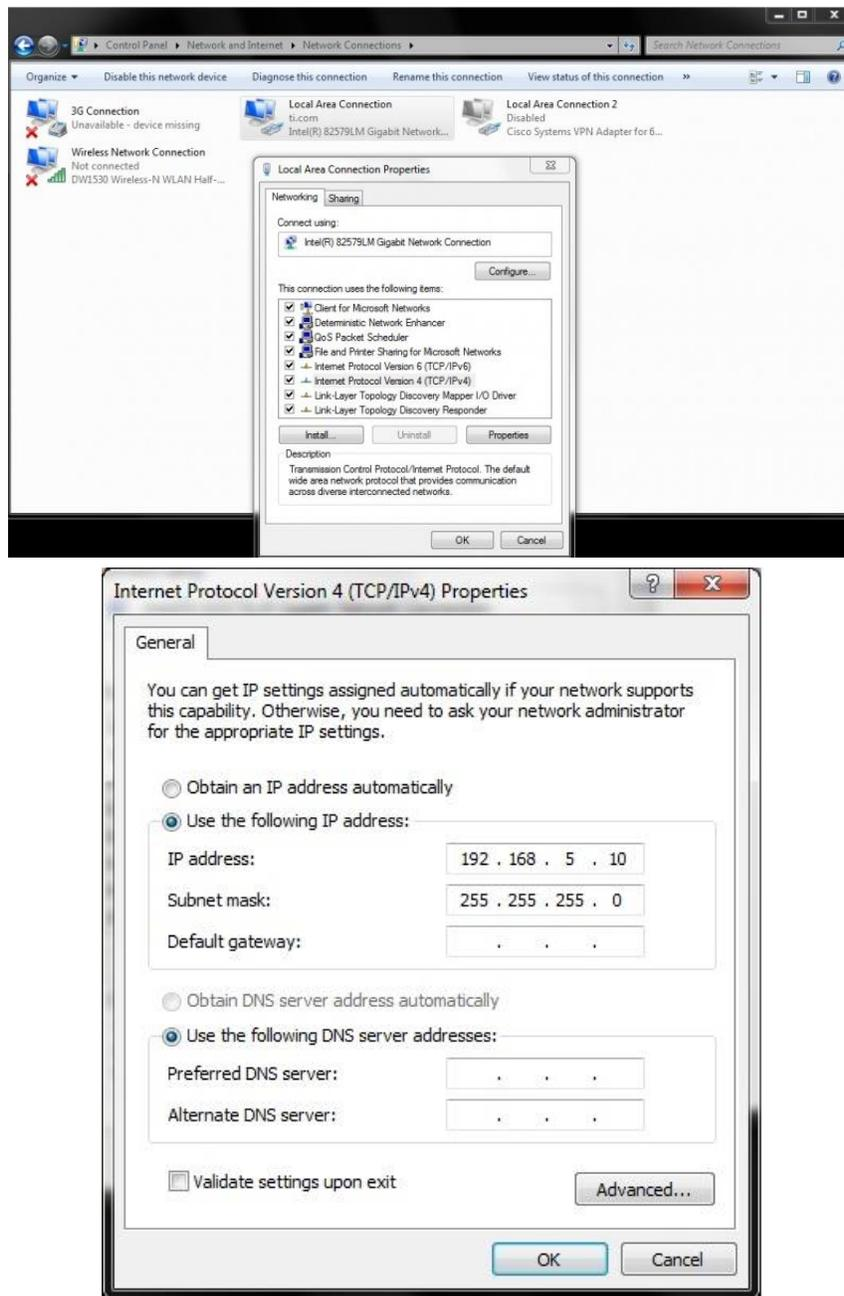

Figure 5. Static IP Configuration on Host PC
1. Setup Static IP on the host machine by setting the IPv4 setting of the Wired LAN settings. Set the Static IP to 192.168.5.10 as shown in Figure 5.